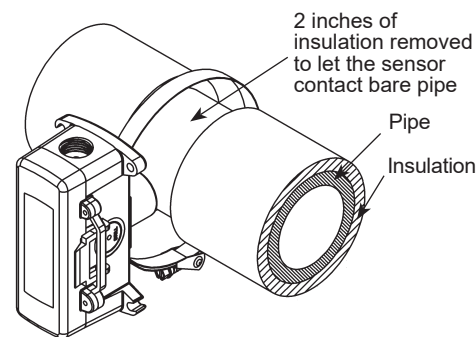

Fig. 6: Clamp-On Strap Unit Mounting (BAPI-Box 2 Enclosure shown but mounting is similar for all BAPI-Boxes.)
1. Figure 6 show a typical direct pipe installation for pipes from 2" to 4.5". Stripping away insulation is OK.